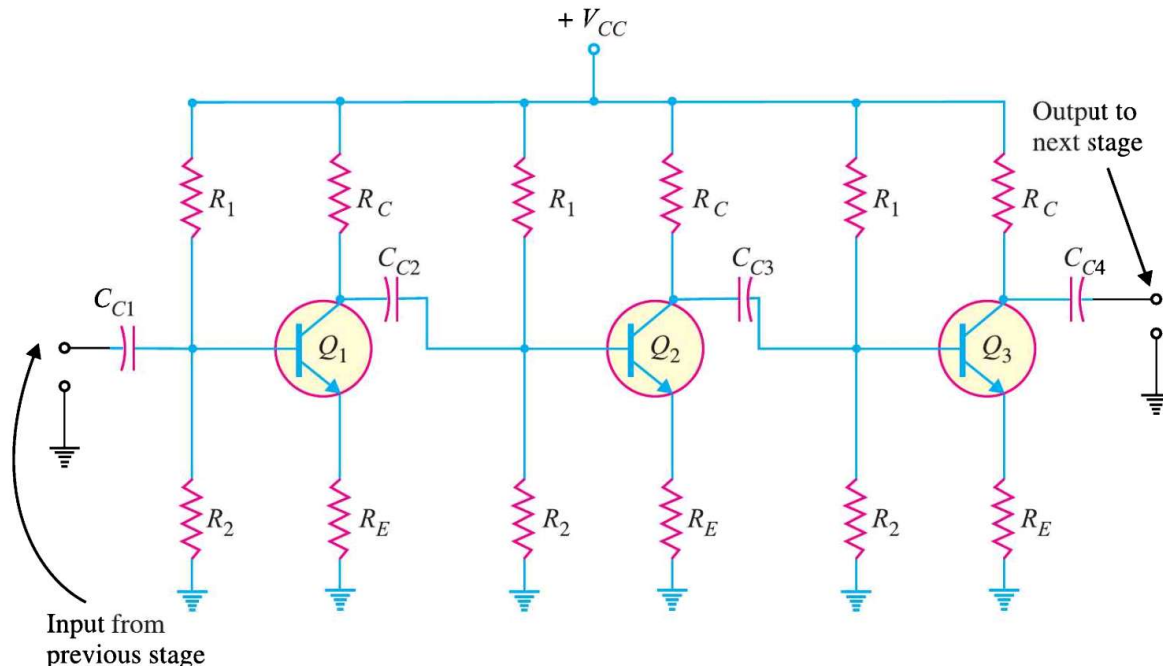

Fig. 11.2
**1. As coupling capacitors.** In most applications, you will not see a single transistor amplifier. Rather we use a multistage amplifier i.e. a number of transistor amplifiers are connected in series or cascaded. The capacitors are commonly used to connect one amplifier stage to another. When a capacitor is used for this purpose, it is called a *coupling capacitor*. Fig. 11.2 shows the coupling capacitors ( $C_{C1}$ ;  $C_{C2}$ ;  $C_{C3}$  and  $C_{C4}$ ) in a multistage amplifier. A coupling capacitor performs the following two functions :